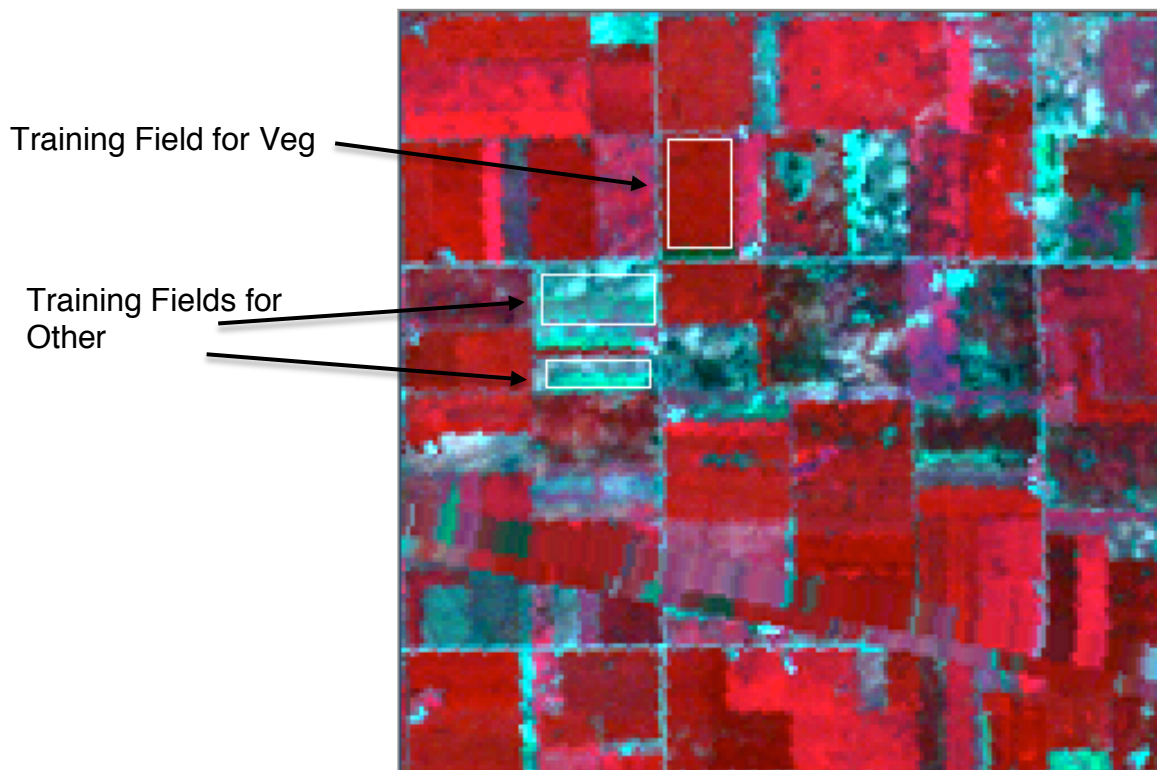

Figure 2. An image presentation of the data in the file TipJul1.lan showing fields to be used for training in part B.
A typical analysis task usually involves many classes, however, as a simple example, we will use a small portion of a Thematic Mapper data set to carry out a 2-class, 7 band classification. The two classes will be Green Vegetation and Other. The data is shown in Figure 2. We will use the three fields indicated in the figure as training data. The figures are from the Macintosh version but the screens from the Windows version will be very similar.
- **Drag from the upper left corner to the lower right corner** of the Veg. training field in the **image window** (the upper one of Figure 2 that shows red on the screen). If upon inspection, one does not like the exact boundaries resulting, one may immediately repeat the process.
- **Drag across the second training field** in the **Image Window** shown in Figure 2.